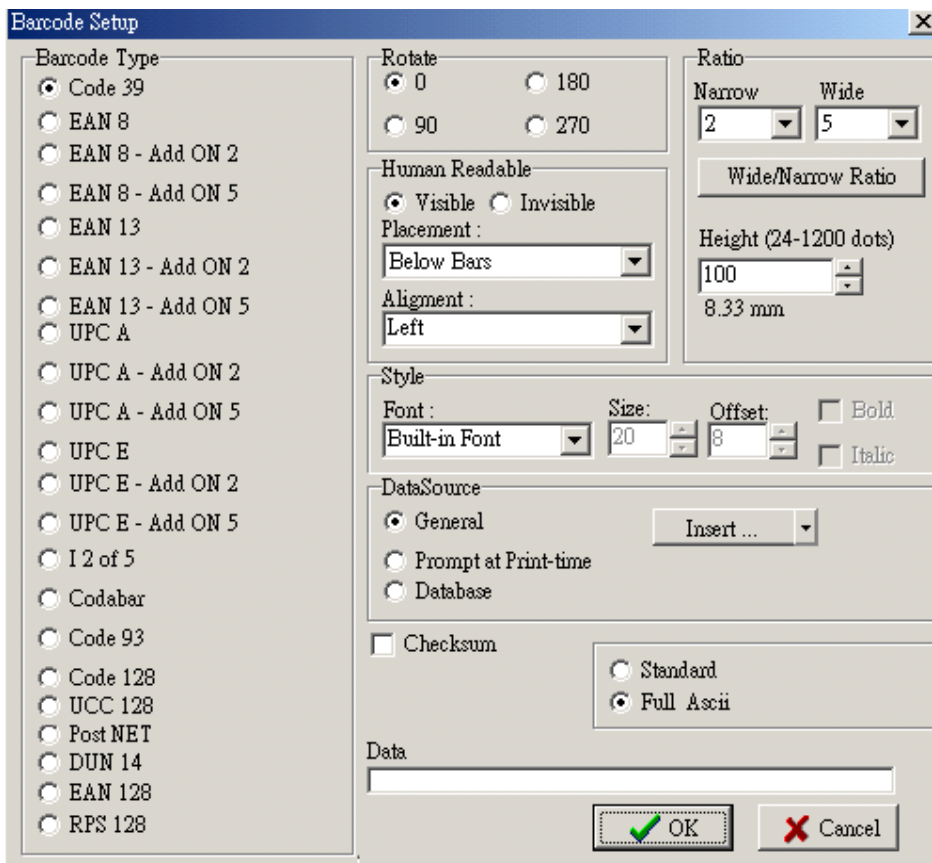

Fig.6.1
1. Click . (refer to the Fig.6.1)